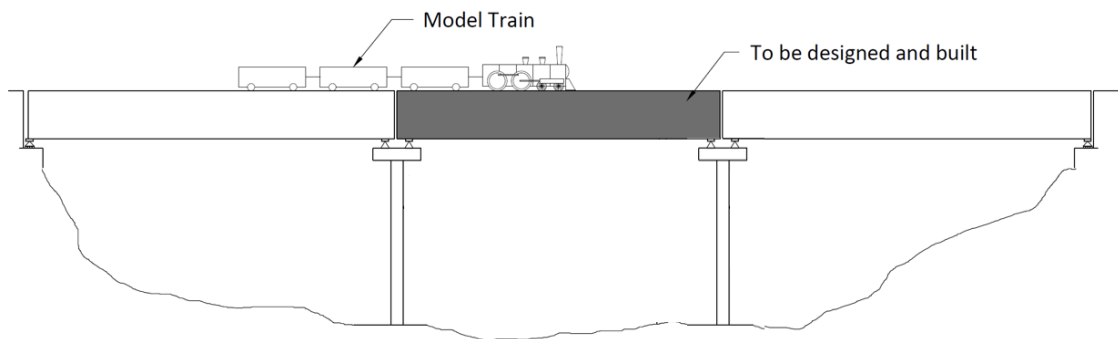

Figure 1. This is a three-span bridge supporting the passage of a 400 N train. Teams must design the left, right, or middle spans.
In teams of three (3) or four (4), you will apply the concepts taught in CIV102 to design and build a small-scale box girder bridge out of matboard. An example of such a bridge is shown in Figure 1. Your bridge will be subjected to increasing loads until failure. Throughout this project, you will be challenged in your ability to design a bridge that can handle the highest loading possible and to be accurate in your estimation of the final failure load.